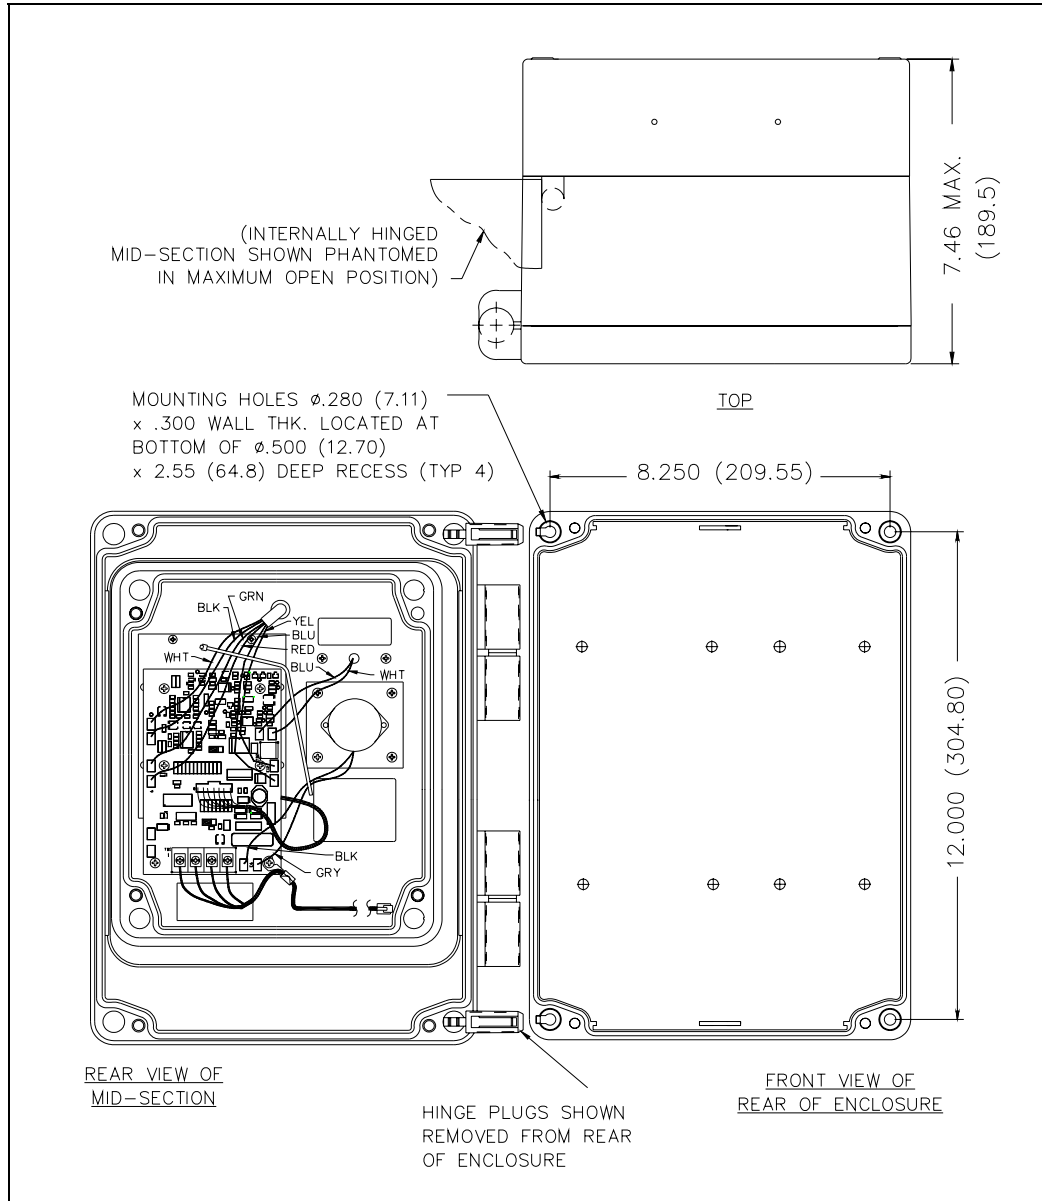

Figure 4. Model 351-001 Mounting Detail
3. Open the front half of the enclosure to the left until the length of modular telephone cord inside the enclosure can be disconnected from the printed circuit board terminal strip. See Figure 4.
6. Reconnect the modular telephone cord to the PCBA terminal strip. See Figure 4.